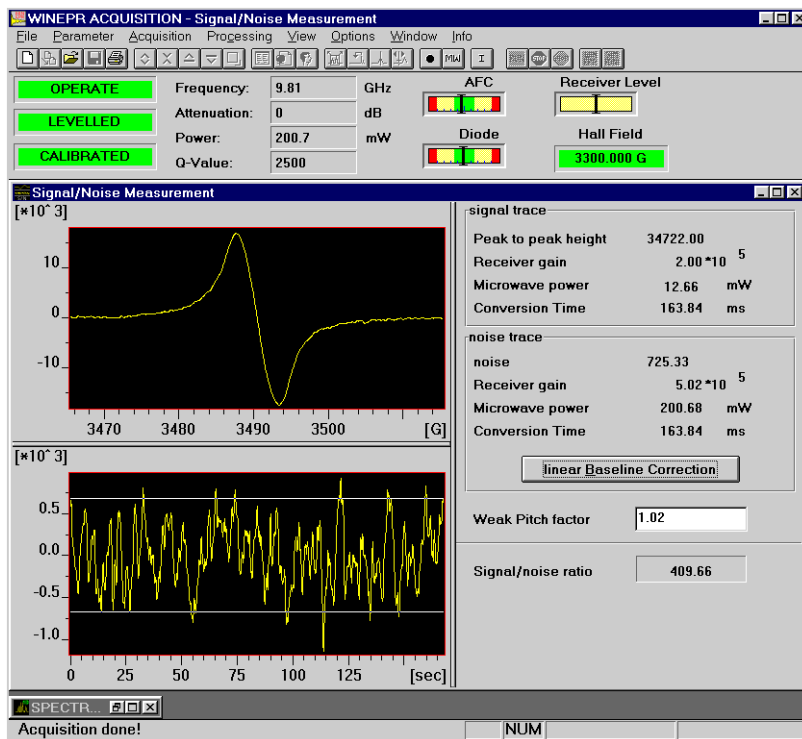

Figure 9-9 Noise measurement and the final result.
10. **Check the S/N ratio.** On the right panel the results of the signal intensity and noise level measurements will automatically appear. At the bottom of the panel, the automatically calculated signal to noise ratio will be displayed in the box. (See Figure 9-9.) The signal to noise ratio should be higher than 330 to meet the specifications of the Bruker EPR instrument. If the result is lower than this value, consult Chapter 6 and Chapter 7. Sometimes a large cavity background signal can significantly decrease the test result. Refer to the next section (Section 9.2) and run a cavity background signal test to verify this. If those hints do not help, contact your local Bruker service representatives.